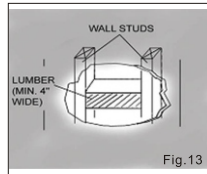

Fig.13
- Prepare back wall frame with cross framing lumber (purchase locally) and fix in the appropriation for secure installation (Fig.13)